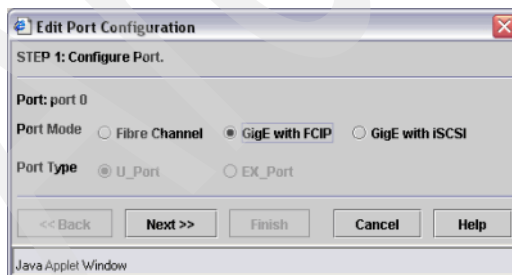

Figure 6-47 Step 1 of configuring Port 0
- Now, we click the **Edit Configuration** link and the Edit Port Configuration window opens, as shown in Figure 6-47.